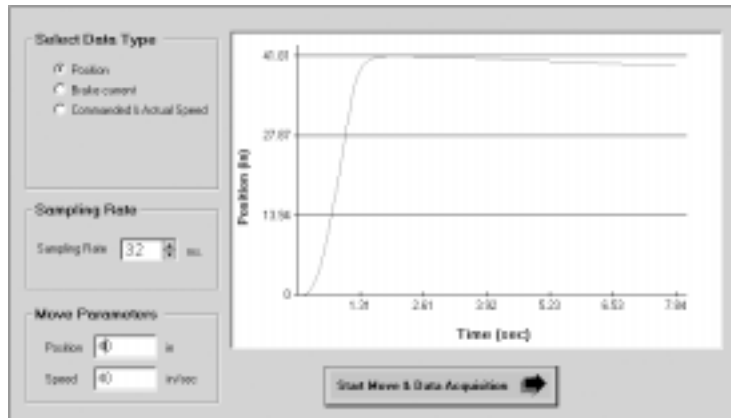

Figure 7.7a
- In this example the air pressure is set at 35 PSI. See Figure 7.7a, the servo gains are set at KP 40, KI 1, KV 2, KT 40. The deceleration rate is set at 0.1 seconds. Notice the actuator overshoot 1.81 inches and came back into position.